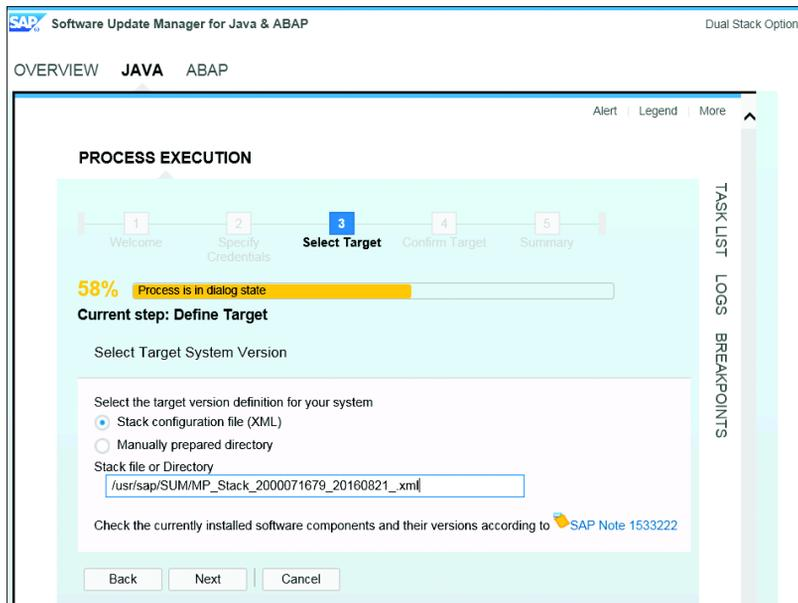

Figure 40 Stack XML Location
3. Enter the location of the stack XML file that was created by way of Maintenance Optimizer (see Figure 40).